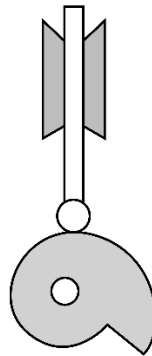

Figure 2
3. Which mechanism is shown in **Figure 2**?